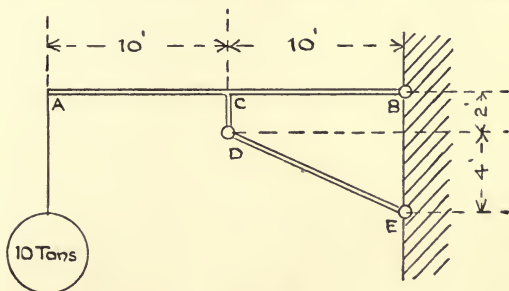

Fig. 3.
6. Draw the bending moment and shearing force diagrams for the beam shewn in Fig. 3. The beam is supported horizontally by the strut  $DE$ , hinged at one end to a wall and at the other end to the projection  $CD$  which is firmly fixed at right angles to  $AB$ . The beam  $AB$  is freely hinged to the wall at  $B$ . The weight of the beam and strut can be neglected.